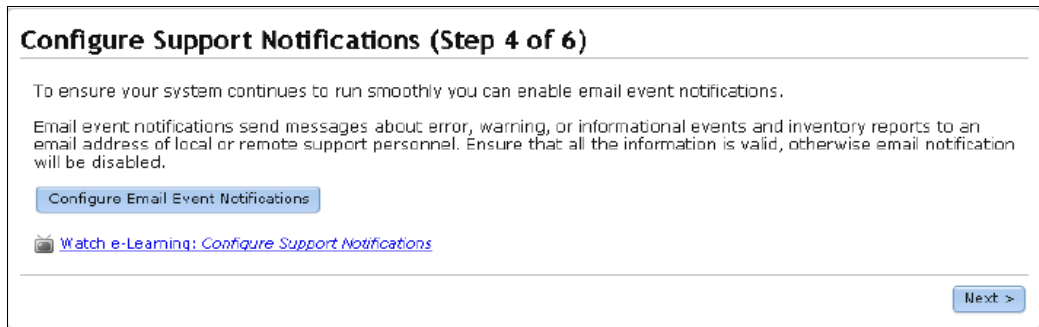

Figure 2-6 Email event notifications setup
- a. Click **Configure Email Event Notifications**, as shown in Figure 2-6.